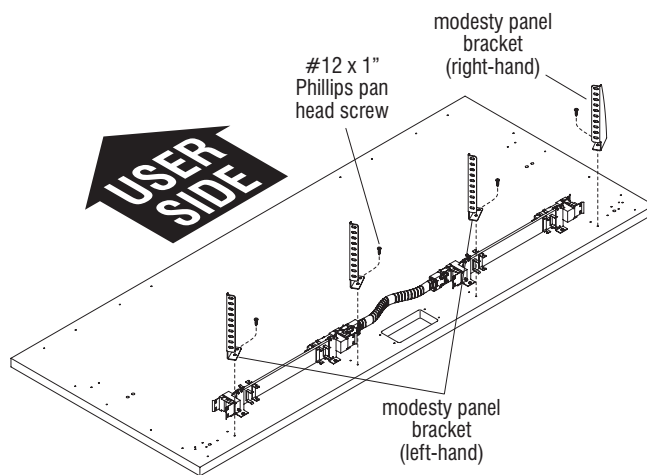

Figure 6 - Single-Sided Fixed Benching with 10-Wire Electrical & Modesty Panels
Note: When modesty panels are to be installed under a worksurface that includes 10-wire electrical, the brackets are to be rotated as illustrated (Figure 6) and installed at this time using only the rear-most screw/mounting location. This allows for clearance to install the power access doors which will be put on at a later step.
5. To determine the correct mounting locations, position left-hand modesty panel brackets over pre-drilled holes at underside of worksurface. Rotate the left-hand brackets such that only the rear-most bracket mounting hole is over the pre-drilled rear hole in the worksurface and attach bracket almost snug to worksurface with one #12 x 1" Phillips pan head screw. Repeat the process for all remaining left-hand brackets, then install the final right-hand bracket in the same manner (Figure 6).